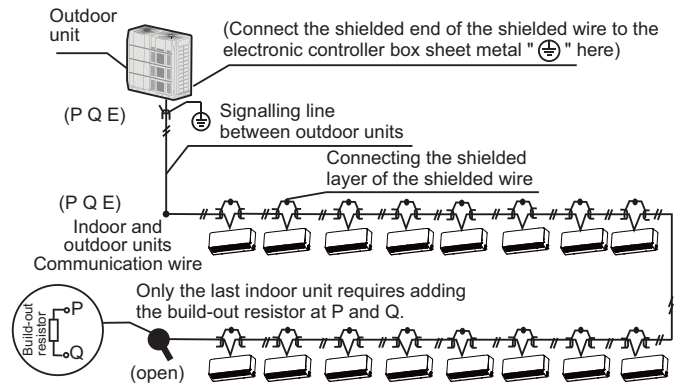

Figure 6.7
- The communication wiring between the indoor and outdoor units should be connected one unit after another in a daisy chain from the outdoor unit to the final indoor unit. And the shielded layer must be properly grounded, and a build-out resistor must be added to the last indoor unit to enhance the stability of the communication system (see Figure 6.7).